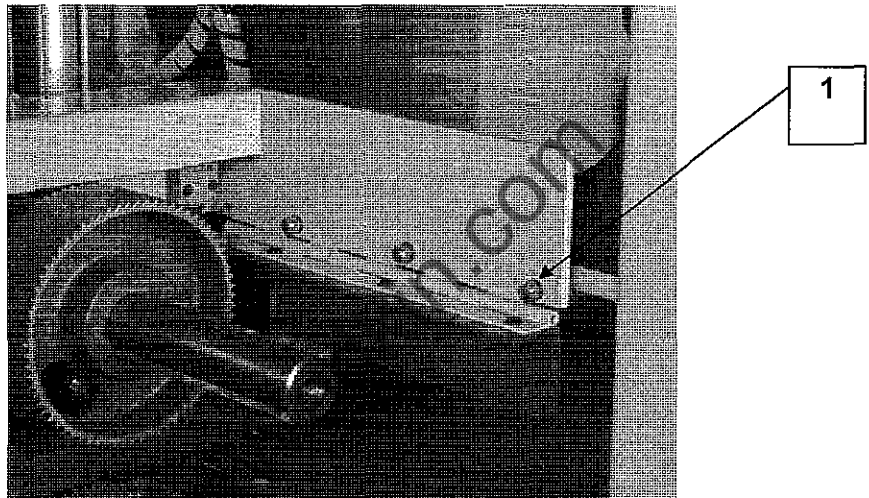

Figure 4.1.3
- 1 Infeed trip device (1) will trip the operation of the machine feed. The spindles will continue to run. This trip level is set through the height of the beam setting. (See Figure 4.1.3).